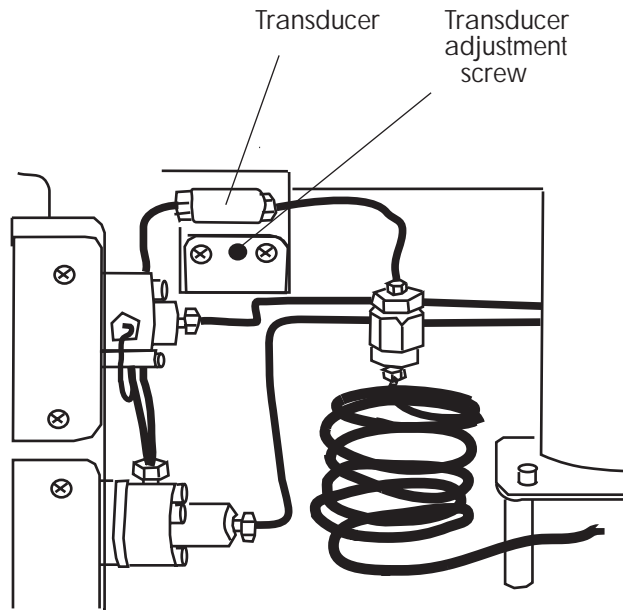

Figure 6-4 Adjusting the Transducer
6. Using a small-blade screwdriver, access the adjustment screw through the access hole beneath the black plastic transducer (Figure 6-4).